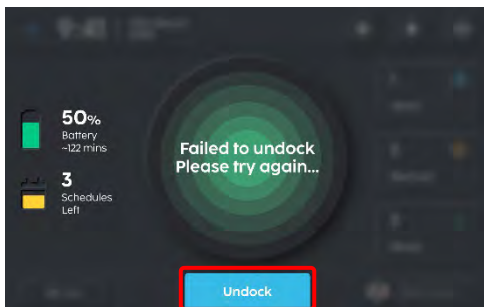

Fig. 9
5. Select the blue 'Undock' button to remove robot from station (Fig 9).